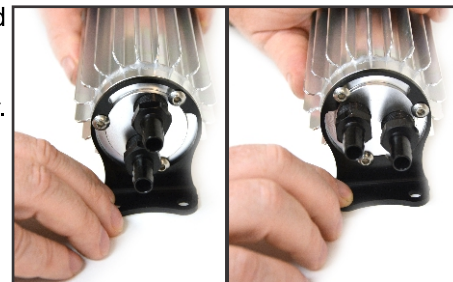

Fig. 3
1. Now Locate the two 1/2" NPT x 3/8" Male Adapter fittings (See Fig. 3)
1. In the Pre-Assembly Cooler instruction line 2, you were told to leave the Button Head Bolts loose. The reason for this is because you can now clock the body of the Heat Sink Cooler so the fittings work best for the install. (See Fig. 3). Tighten the Button Head Bolts when you have found the best rotation of the fittings on the cooler.